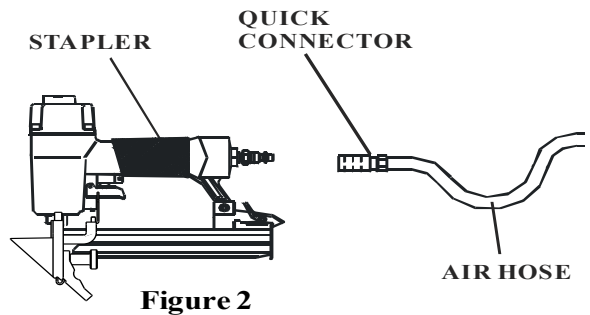

Figure 2
4. Connect the tool to the air supply (figure 2).